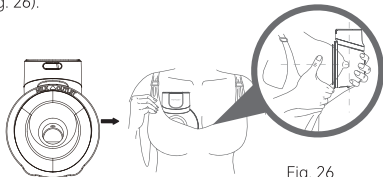

Fig. 26
a. Before pumping, please make sure the pump is pressed tightly on your breast without a gap (Fig. 26).